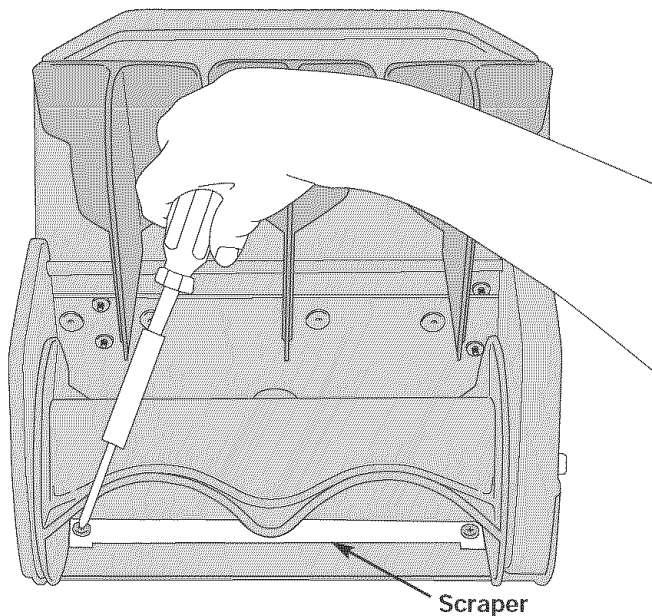

Fig. 11
2. Beneath the rotor, locate the three (3) screws securing the scraper to the housing. Remove them using a #T20 Torx bit or flat blade screwdriver (Fig. 11).
4. The new scraper will snap into place. Once in place, attach it to the unit by reinstalling the three (3) screws.